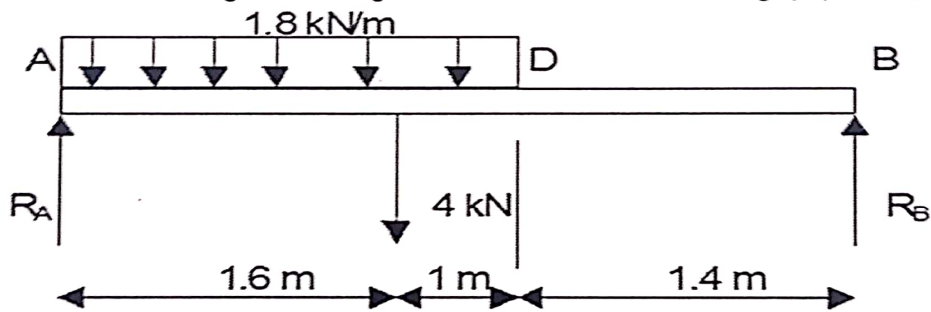

Figure Q6: Beam AB subjected to loadings
- (a) Draw the shear force and bending moment diagrams for the beam AB shown in Fig Q6.(7 marks)